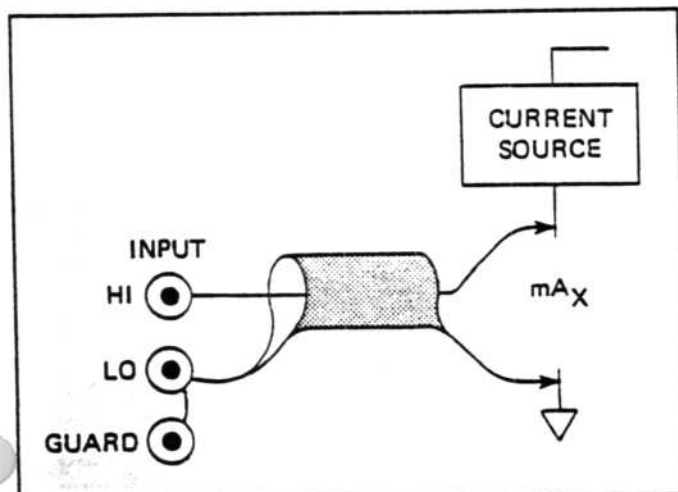

Figure 3.4 - mA Connection Using Coaxial Cable
- Connect the mA source to be measured to the INPUT HI-LO terminals; refer to Figures 3.4 and 3.5 and read the value from the display.